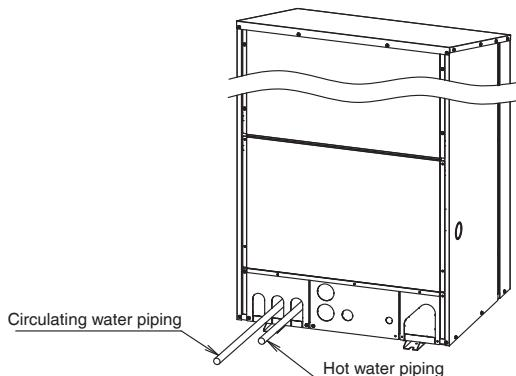

Fig. 15 Entering and Exiting of water piping
- The water piping can be connected from the front of the cascade unit as shown in Fig. 15.